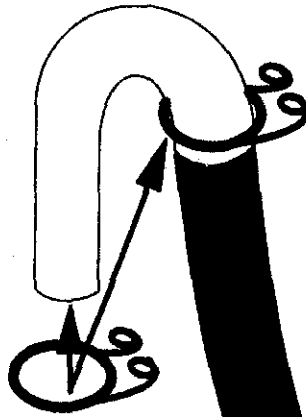

Fig. 3
8. Open the yellow clamp by squeezing the ears together and slide it over the "hook" end of the drain hose to secure the rigid and corrugated sections together. (*Fig. 3*)